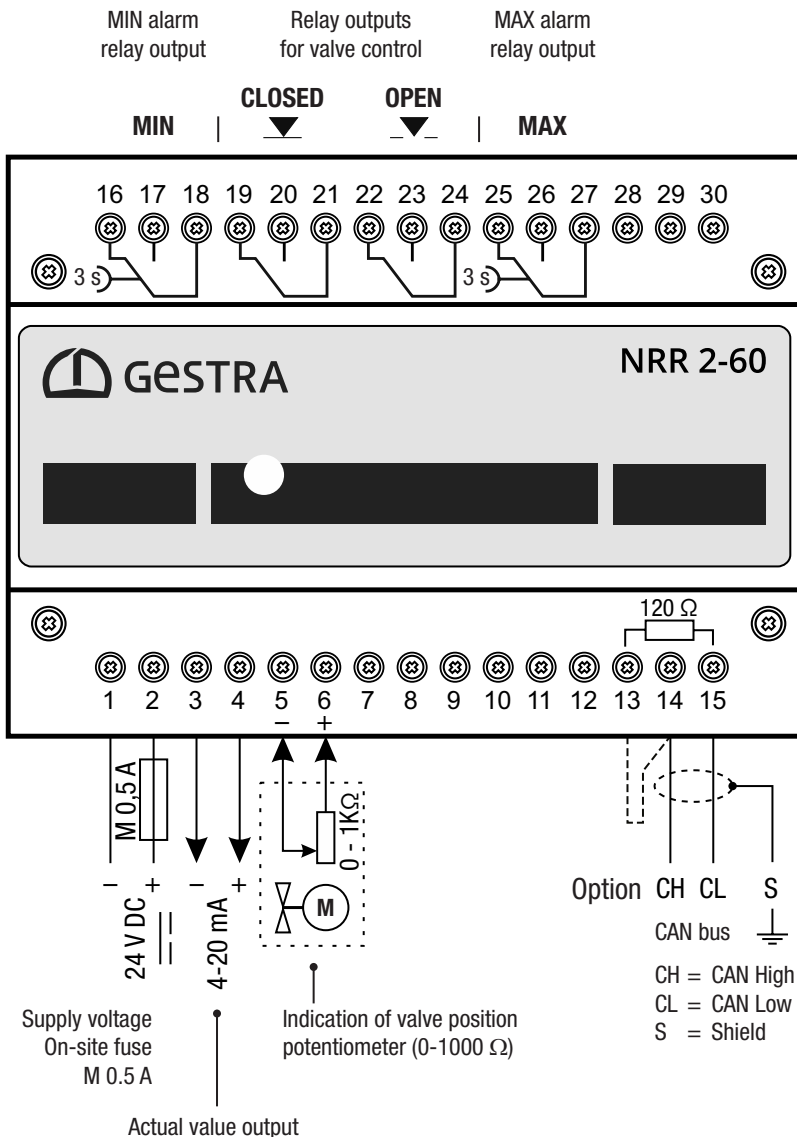
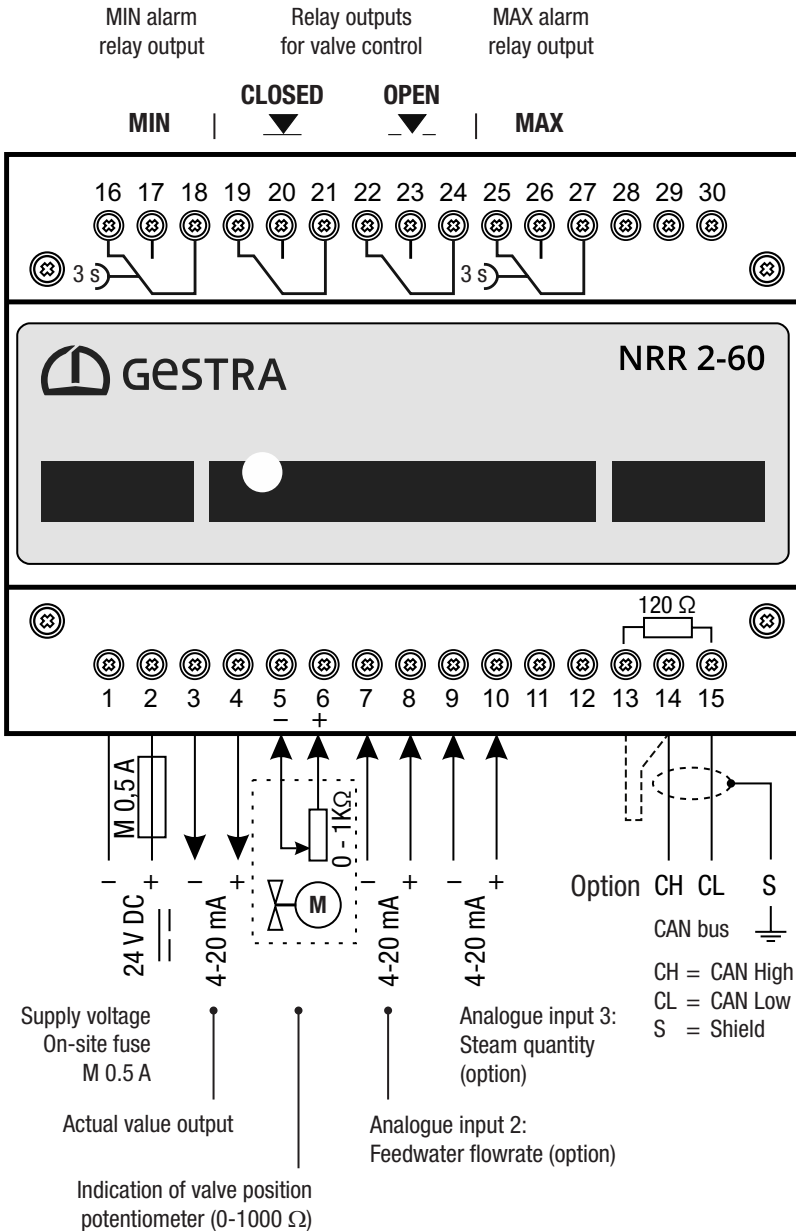

Fig. 7
Fig. 8
- Connect the level controller and all associated components as shown in the wiring diagrams in Fig. 7/Fig. 8 of this Manual.
- Connect the outputs as shown in the wiring diagrams in Fig. 7/ Fig. 8.